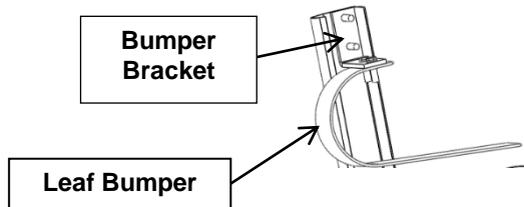

Figure 12 Attach leaf bumper to upper track
12. Attach Leaf bumper to upper track using 3/8”-16x1” hex head bolts and 3/8”-16 Nylock nuts for each side (**Figure 12**)